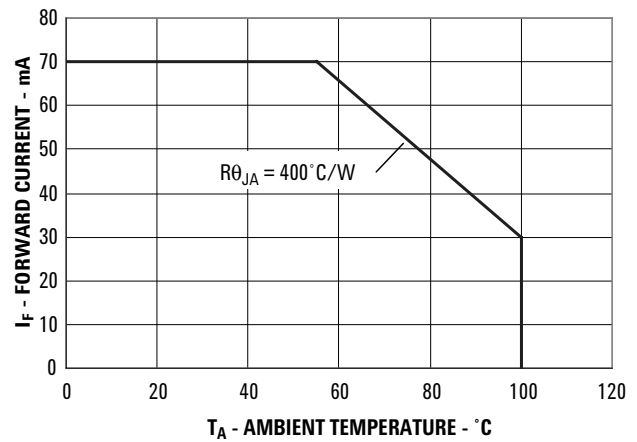

Figure 4. Maximum Forward Current vs Ambient Temperature. Derating Based on $T_{JMAX}=130^{\circ}\text{C}$.
1. Derate linearly as shown in figure 4.